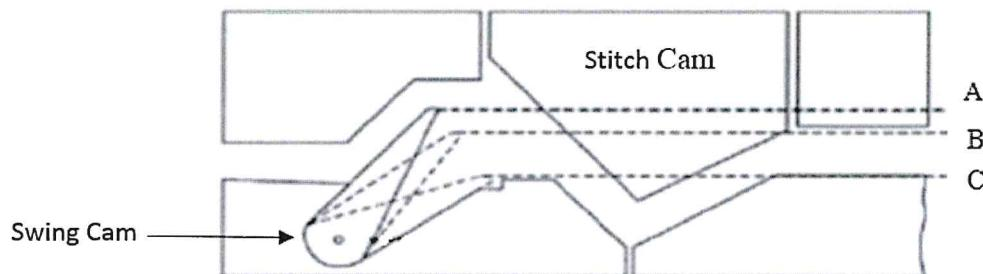

Figure 3(c) / Gambarajah 3(c)
- CLO1 (c) Based on Figure 3(c), explain the type of loop produced according to the location of swing cam in position A, B and C.